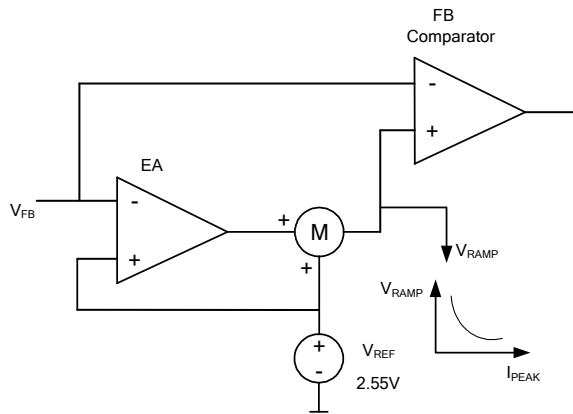

Figure 4: EA and Ramp Compensation
The MP172A has an internal error amplifier (EA) compensation loop (see Figure 4). It samples the feedback voltage $6\mu s$ after the MOSFET turns off, and regulates the output based on the 2.55V reference voltage.
An internal ramp compensation circuit improves the load regulation. An exponential voltage signal is added to pull down the feedback comparator's reference voltage (see Figure 4). The ramp compensation is a function of the load conditions: the compensation is about $1mV/\mu s$ under full-load conditions. The compensation increases exponentially as the peak current decreases.